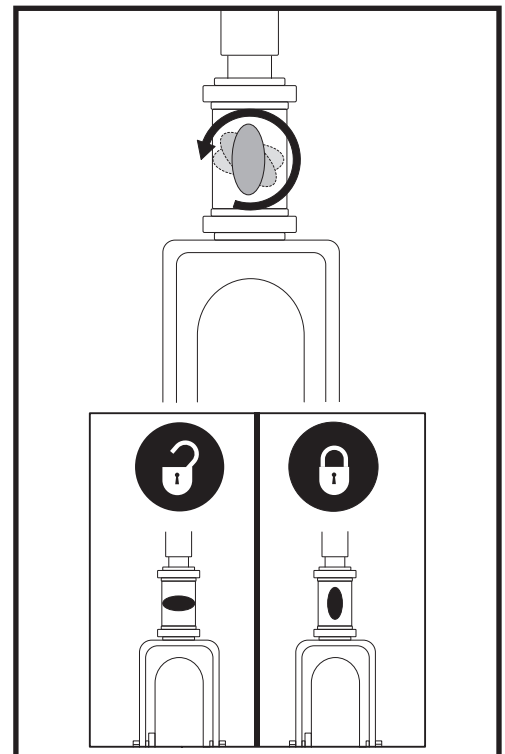

Figure 26. Tiller Lock Knob (Model 104 only)
1. Remove the key from the key switch. *For model 104*, lock the tiller in the straight ahead position by pushing the tiller lock knob in and turning it clockwise 90°. **See figure 26.** The front wheel must face forward in order to lock the tiller.